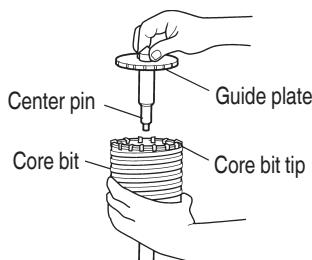

Fig. 19
## (3) Insert the center pin into the guide plate until it stops. Engage the guide plate with the core bit, and turn the guide plate to left or right so that it does not fall even if it faces downward. (Fig. 19)